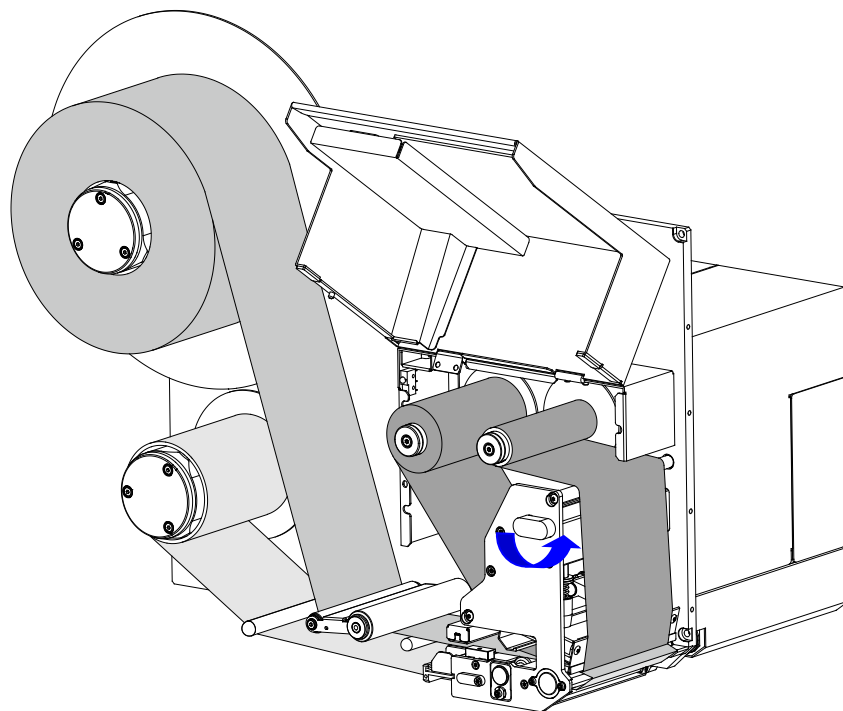

Figure 2-30 Lock the Printhead
11. Turn the Printhead Handle clockwise to lock the Printhead in place, and flip the Pinch Roller Assembly towards the hooks until you hear a “click”. As shown in Figure 2-30.